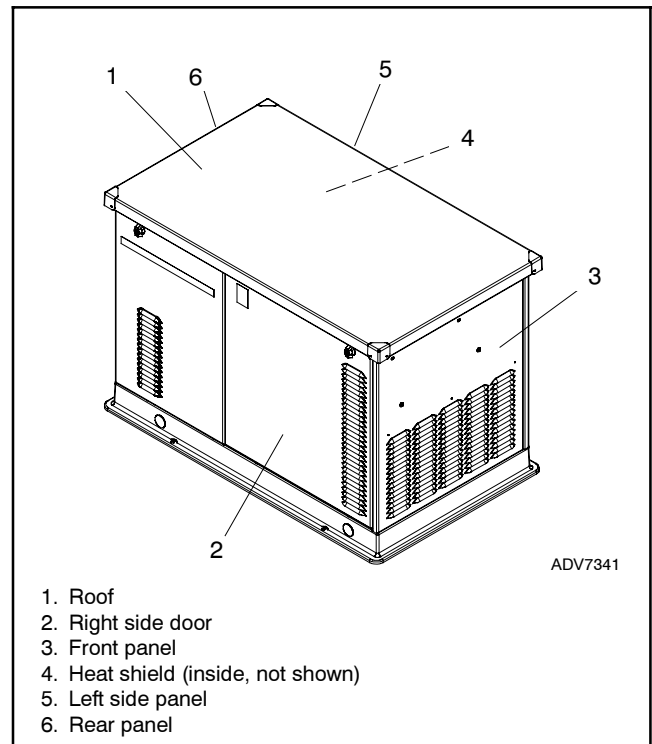

Figure 6-27 Generator Set Enclosure
15. Reinstall the enclosure panels in reverse order of removal. See Figure 6-27 and refer to the disassembly instructions, if necessary.